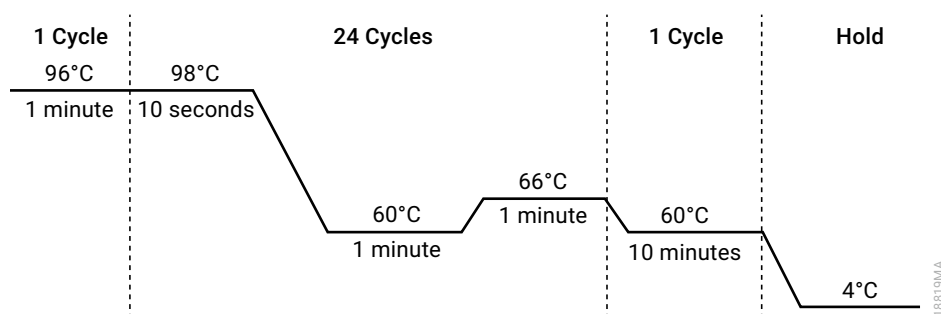

Figure 4. Thermal cycling protocol for the Mastercycler® X50s PCR System.
- Select and run the recommended protocol provided below and in Figure 4. The total cycling time is approximately 75 minutes.